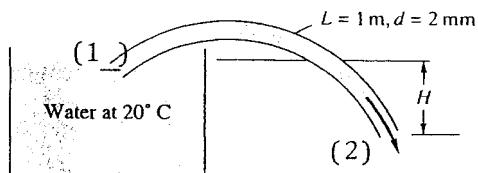

Fig. P6.14
**6.14** Water at 20°C is to be siphoned through a tube 1 m long and 2 mm in diameter, as in Fig. P6.14. Is there any height  $H$  for which the flow might not be laminar? What is the flow rate if  $H = 50$  cm? Neglect the tube curvature.